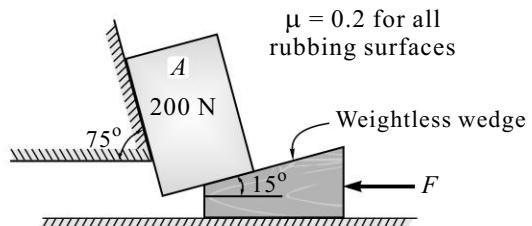

Fig. 8.E34
35. Determine the force P required to start the motion of wedge shown in Fig. 8.E35.